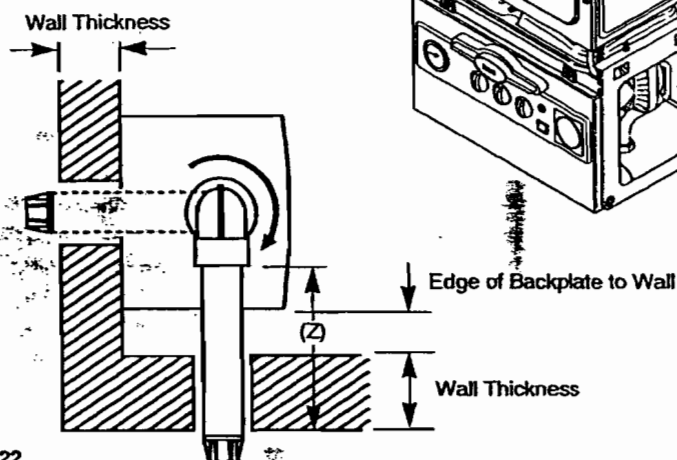

Fig. 22
4. For rear exit - measure the wall thickness (Fig. 22 & 23) and to this dimension add 100mm. This dimension to be known as (X).
7. For side exit - measure the distance from the edge of the backplate to the inner face of the wall (Fig. 22) and to this dimension add the wall thickness + 150mm. This dimension to be known as (Z).